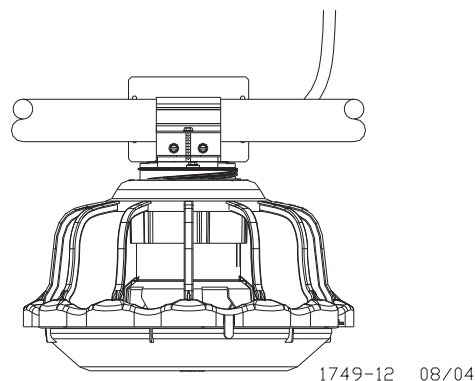

Figure 38. Installing the Mechanical Mid Line Control
2. Enlarge the outlet hole to approximately 1" [2.5 cm] diameter for the Mid-Line Control, plus enlarge (2) outlet holes in front (to the hopper end) of the Mid-Line Control.
- a. Assemble the Mid-Line Control over the outlet hole in Tube as shown in **Figure 38**.